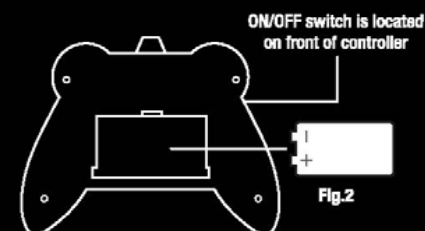

Fig.2
- Insert one 9V battery according to the polarity diagram on the battery tray (Fig.2).